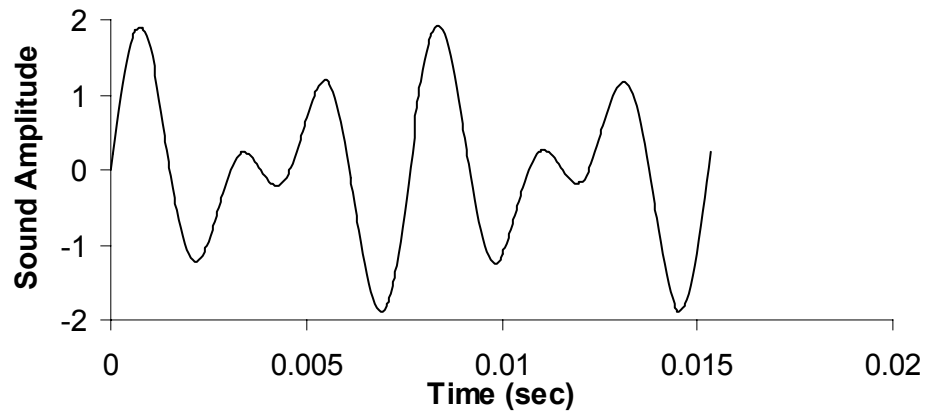

Figure 8.6. A simple chord mixing the notes C and G.
A **chord** is created by playing multiple notes simultaneously. When two piano keys are struck simultaneously both notes are created, and the sounds are mixed arithmetically. You can create the same effect by adding two waves together in software, before sending the wave to the DAC. Figure 8.6 plots the mathematical addition of a 262 Hz (low C) and a 392 Hz sine wave (G), creating a simple chord. You do not need to create chords in this lab assignment.